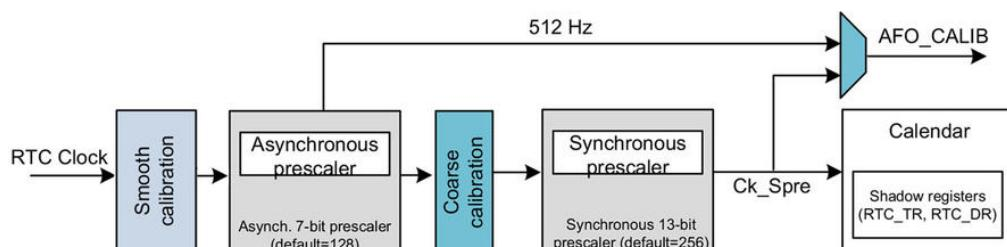

Figure 3: The structure of the RTC clock distribution
- It is not possible to check the calibration result, as the 512Hz output is before the calibration block (see Figure 34). You can check the calibration in some STM32 MCUs, as the 1Hz CK\_Spre output is after the coarse calibration block. Refer to the reference manual for your MCU.
When the reference clock detection is enabled, both *asynchronous* and *synchronous* prescalers must be set to their default values: 0x7F and 0xFF. When the reference clock detection is enabled, each 1Hz clock edge is compared to the nearest reference clock edge (if one is found within a given time window). In most cases, the two clock edges are properly aligned. When the 1Hz clock becomes misaligned due to the imprecision of the LSE clock, the RTC shifts the 1Hz clock a bit so that future 1Hz clock edges are aligned. The update window is three `ck_calib` periods (`ck_calib` is the output of the coarse calibration block - see **Figure 3**).